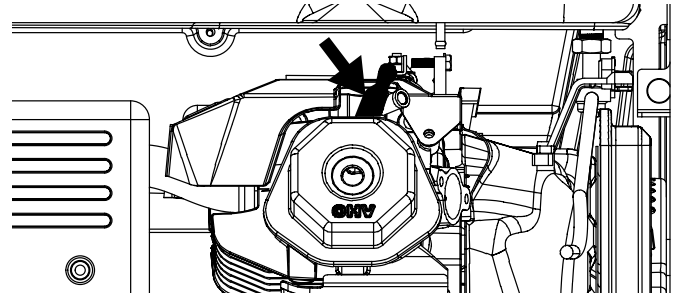

Figure 27 - Remove Spark Plug Boot
3. Remove the spark plug boot by firmly pulling the plastic spark plug boot handle directly away from the engine (see Figure 27).